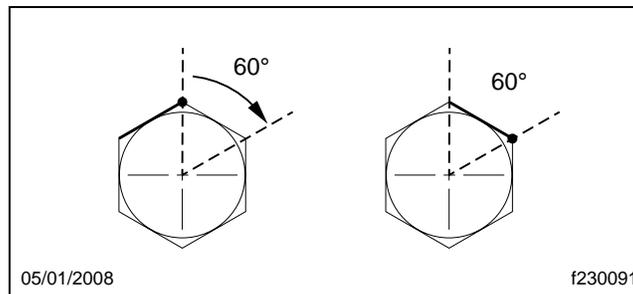

Fig. 6, Turning the Fitting One Flat (60 degrees)
32. Attach the lines to the plumbing adaptors on the steering gear, while ensuring that the lines will not touch the axle or each other once installed. Snug the connection with a wrench to ensure the fittings are seated, which is equivalent to approximately 2 lbf-ft (3 N·m). Then, using a backup wrench to keep the adaptors from turning, tighten the return and supply hoses by 1 flat of the tube nut (60 degrees). See **Fig. 6**.